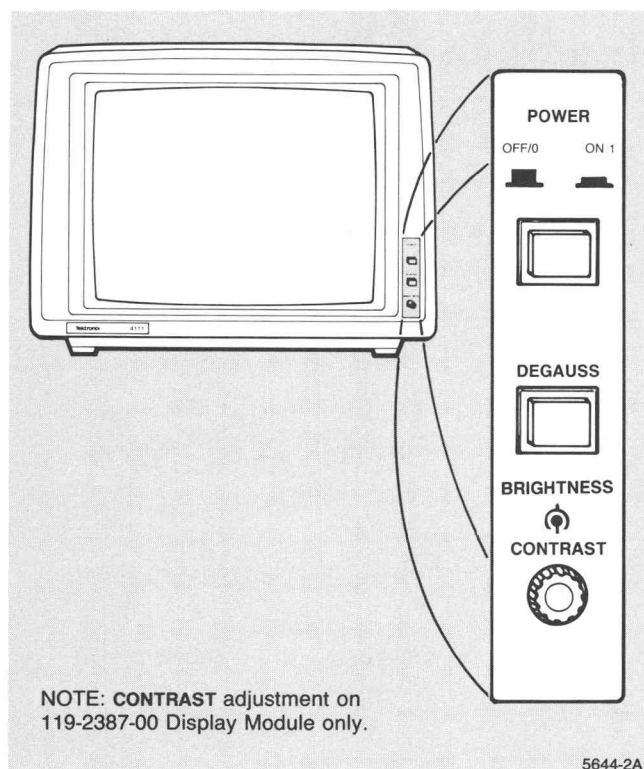

Figure 7-7. Power Switch.
7. Push in the power switch (Figure 7-7). The terminal should power up and the cooling fan should start. Wait a few seconds until the cursor appears in the upper left corner of the screen. If any LEDs stay lit (on the standard keyboard with thumbwheels) and the keyboard bell rings, or if the cursor does not appear, run Self-test (described in Section 3).